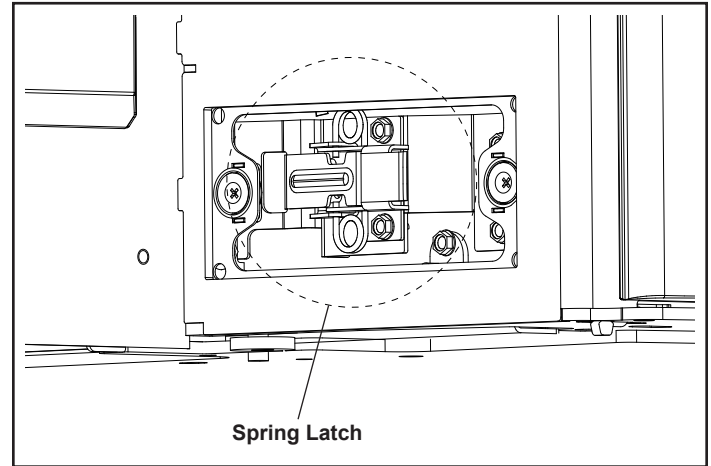

Figure 2.6
- h. Release the right and left side spring latches and slide the insert body out onto the hearth or onto the service rail kit, if purchased, Figure 2.6.